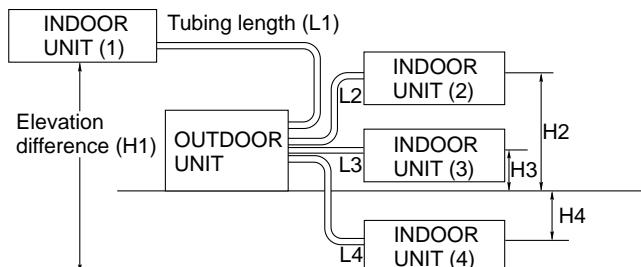

Fig. 1
- install the unit within the maximum elevation difference (H_1, H_2, H_3, H_4) above or below the outdoor unit and within a total tubing length ($L_1+L_2+L_3+L_4$) from the outdoor unit as detailed in Table 1 and Fig. 1.